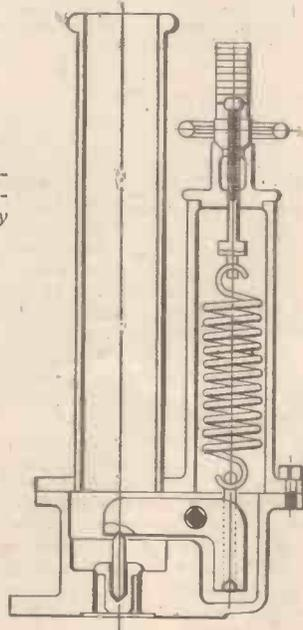

Fig. 10.—Naylor's locomotive safety valve.
Another type of valve, the Naylor, was introduced by Kitson's with the object of obtaining the maximum lift of the valve with the minimum extension of the spring, and Fig. 10 shows one of these in section. Two drawbacks exist in this design, (1) the inability of the driver to ease a sticking valve—at least in the design shown—and (2) the absence of a second valve. The first could have been